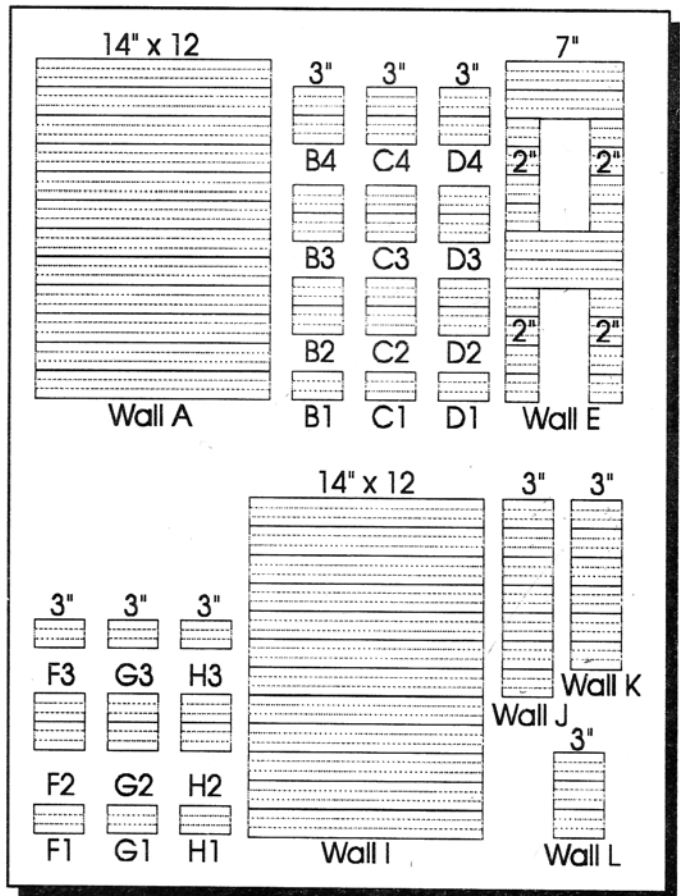

Figure 2
3. Glue the pieces together, flat side down, as shown in Fig. 2. The tongue is on the top edge of each board.